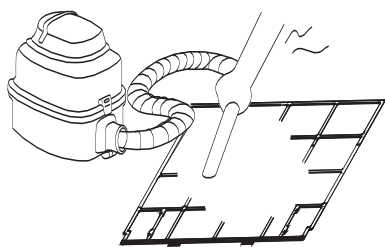

Fig.G3
4. The air-in side should face up when using vacuum cleaner.(see Fig.G3)